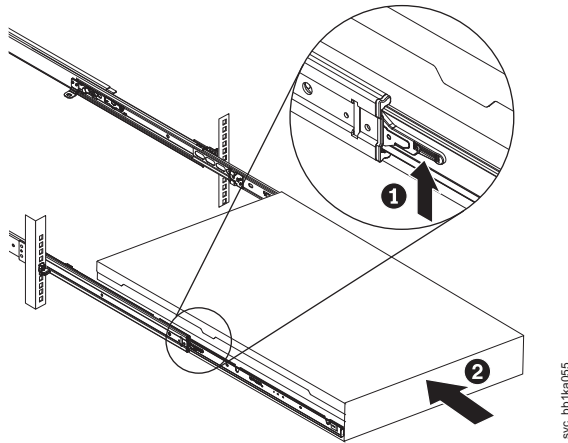

Figure 135. Raising the locking levers of the slide rails of the rack
9. Lift the locking levers (**1** in Figure 135) on the slide rails and push the node **2** all the way into the rack until it clicks into place.